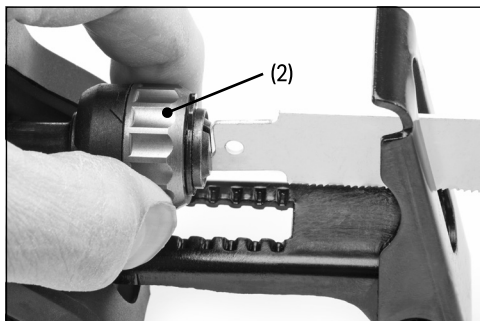

Fig. 5
- To start the saw, press in the safety switch (6) first, then press the variable speed switch (4).
- To stop the saw, release the variable speed switch (4).
7.2 Quick Change Blade Function – Fig.5